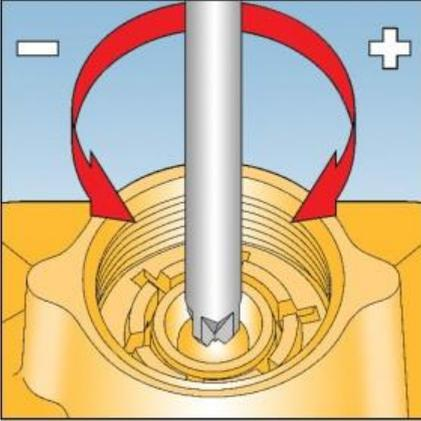

Fig. 7
8. If UPSS fitted, insert a pozidriv screwdriver (No.2 point) into UPSS adjusting screw in bottom spring holder. See Fig. 7.
23. Slowly turn UPSS adjusting screw clockwise (+) until UPSS device trips off. See Fig. 7.